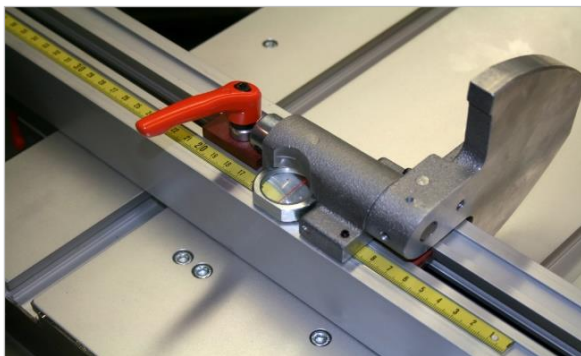

Figure 69: Flip stop (left to the saw blade)
- Move the flip stop on the rip fence to the dimension previously set on the cross-cut fence (⇒ Figure 69).